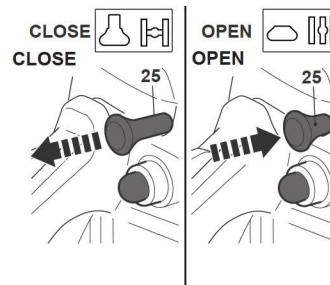

Fig. 20a
1. By pulling out the choke lever (25) fully (Fig. 20a), the choke is now at CLOSE position, and the throttle is at fast tickover.